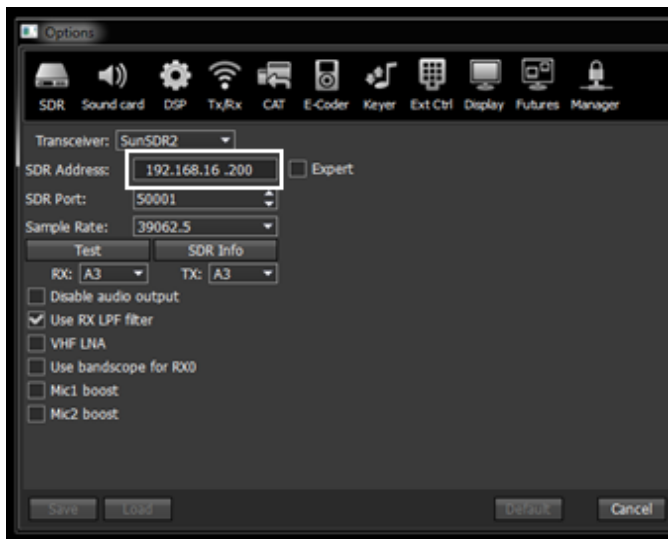

Figure 5.1 – Transceiver current IP-address setting in ExpertSDR2 software
- 1) Launch ExpertSDR2 software and open settings menu **Options** -> **SDR**. Put the current transceiver IP-address in the field **SDR Address**, it's **192.168.16.200** by default. Settings window is showed in Figure 5.1.